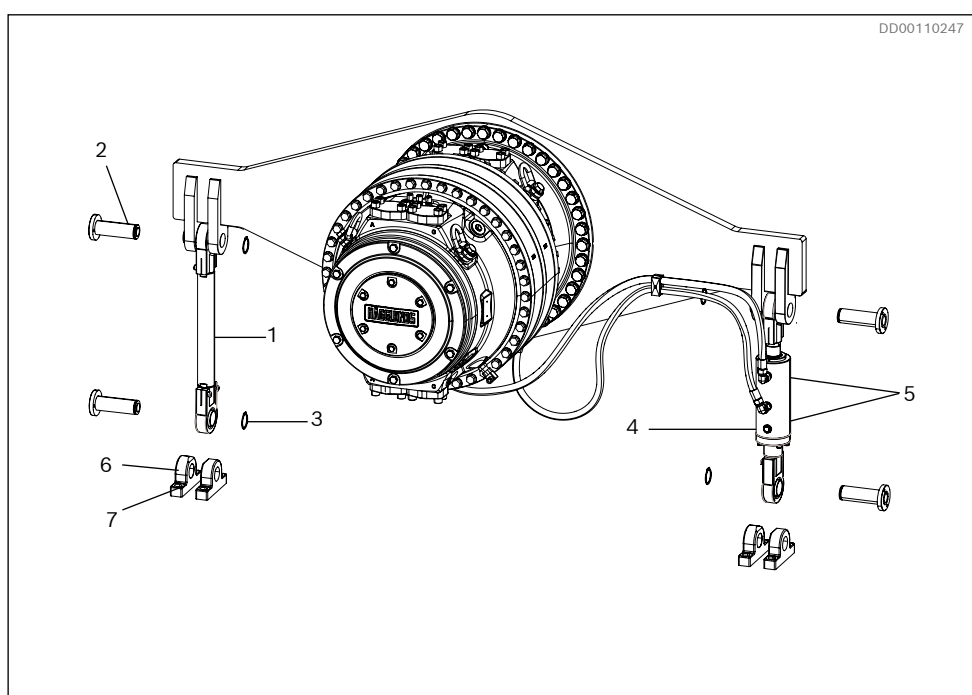

Fig. 31: Example articulated connection and hydraulic cylinder for DTCB_0400
1. Mount the articulated connection on the left side of the torque arm (viewed from the connection side of the motor, see Fig. 31), use the pins (2) and lock them in place with circlips (3).
2. Mount the hydraulic cylinder with the piston rod facing upwards on the right side of the torque arm (viewed from the connection side of the motor), use the pins (2) and lock them in place with circlips (3).
3. Attachment brackets (6) for torque arm should be fastened with screws (7).
The cylinders should be vented from air during commisioning by using the air bleeding screws on the cylinder, see Fig. 31.